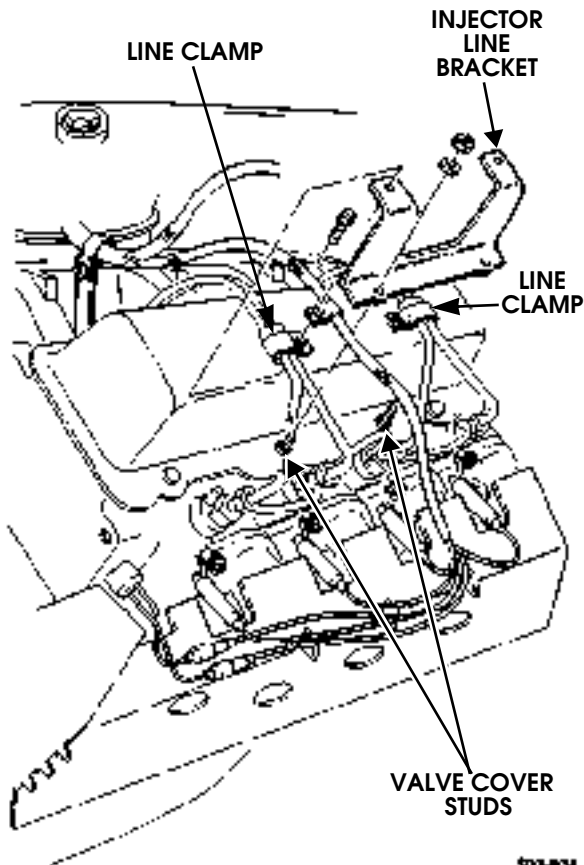

Figure 3-50: Injection Line Bracket Removal/Installation
3. Remove bracket (Figure 3-50).